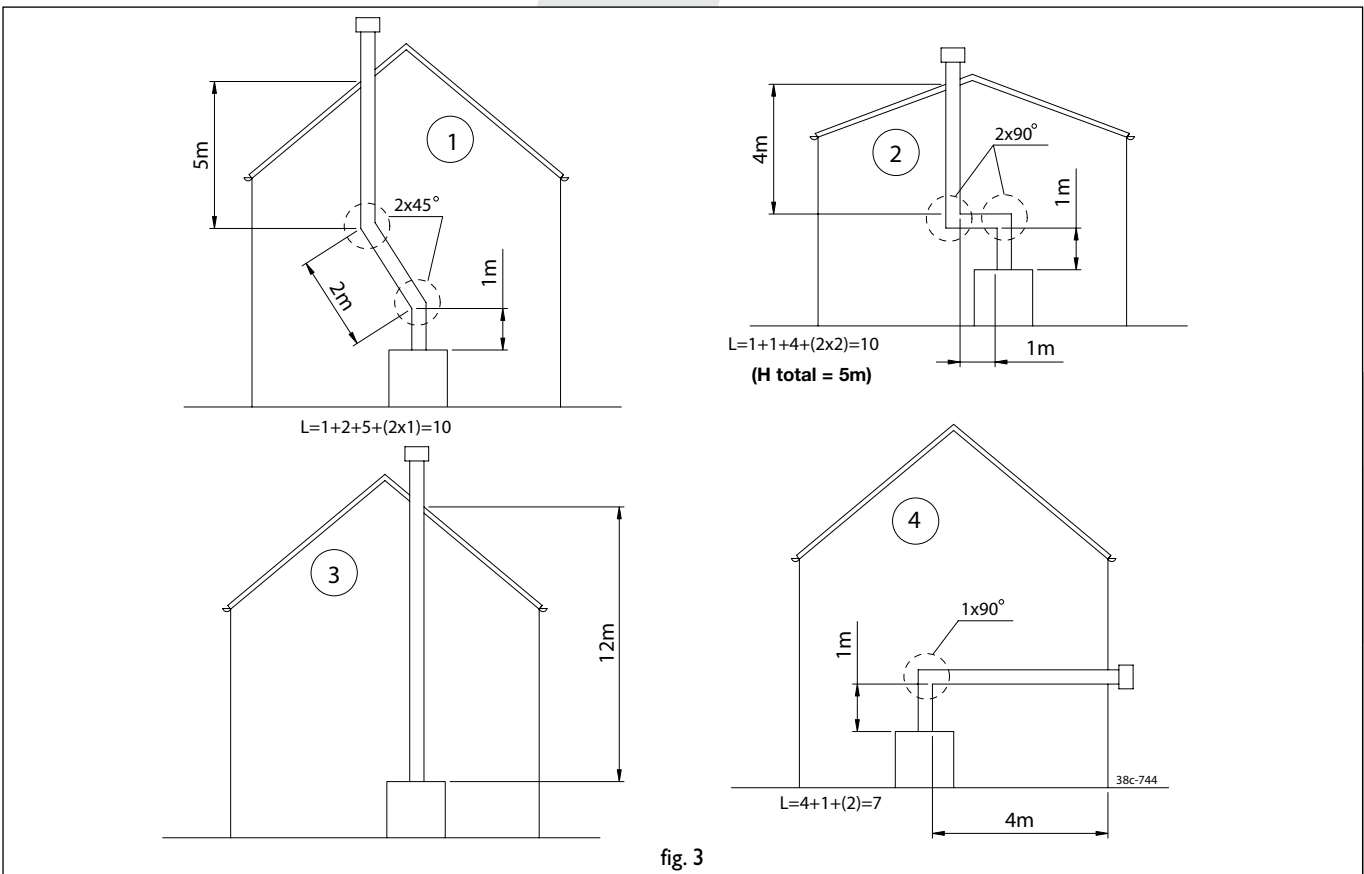

fig. 3
**Possible connections (fig. 3)**
The maximum total length is the sum of the pipe lengths plus the equivalent length for the bends (see the four examples in fig. 3).
- Select the required connection from the options shown in figure 3.
Fig. 3 illustrates how to calculate the total lengths.